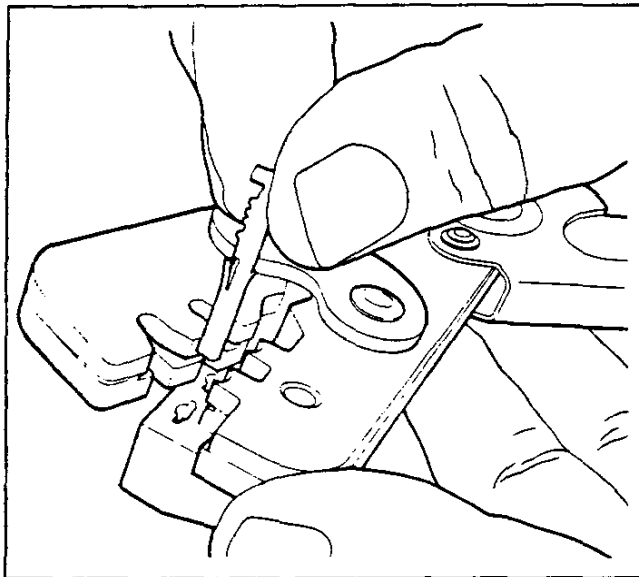

Figure 44
1. Insert the terminal into the locating hole of crimping tool J35606 using the proper hole according to the gage of the cable to be used (Fig. 44).